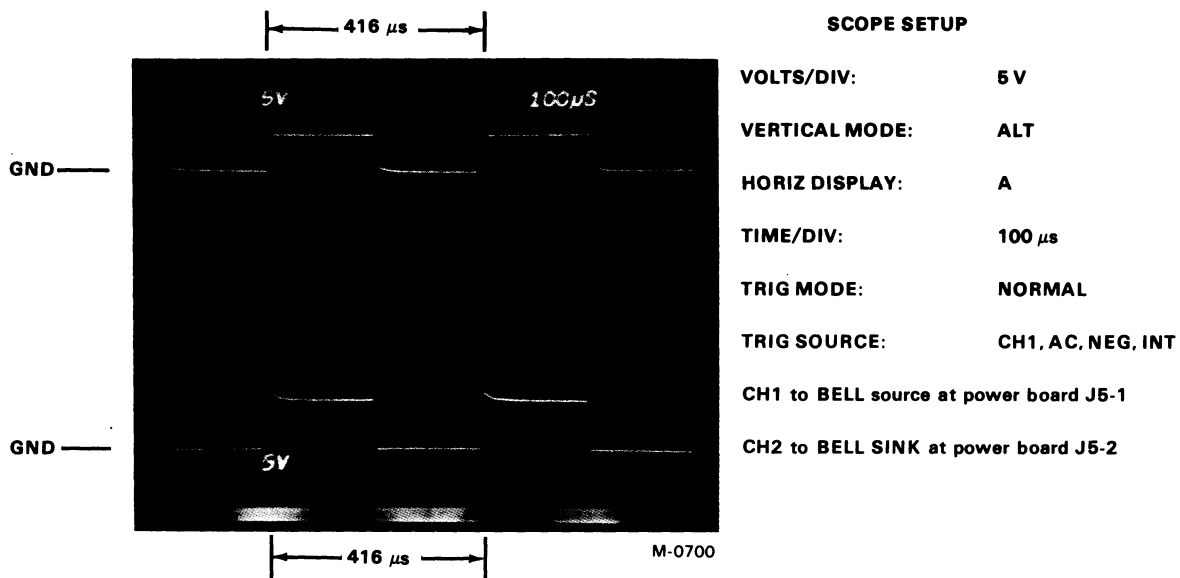

Figure 6-36 BELL Source and BELL SINK Waveforms
3. Check the waveforms (with keys depressed) at the test points indicated in Figures 6-36 and 6-37.